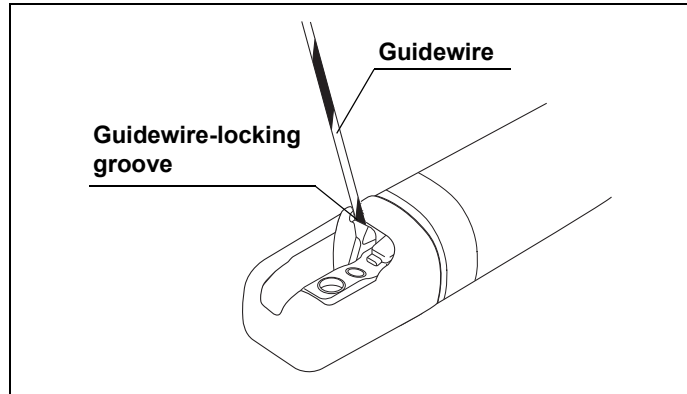

Figure 4.11
- 3** When only the guidewire is extended from the endoscope's distal end, slowly move the elevator control lever in the “◀U” direction until the operator feels resistance (for center lock, see Figure 4.11).